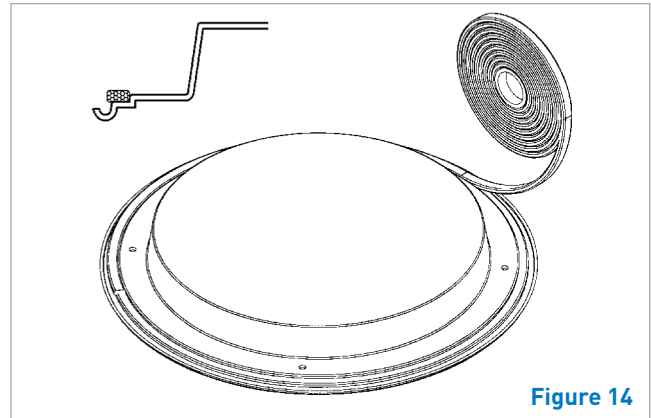

Figure 14
- Take a length of 6mm x 6mm adhesive foam strip, remove the backing paper and apply the strip to the flange of the diffuser placing it firmly against the formed shoulder (Figure 14).